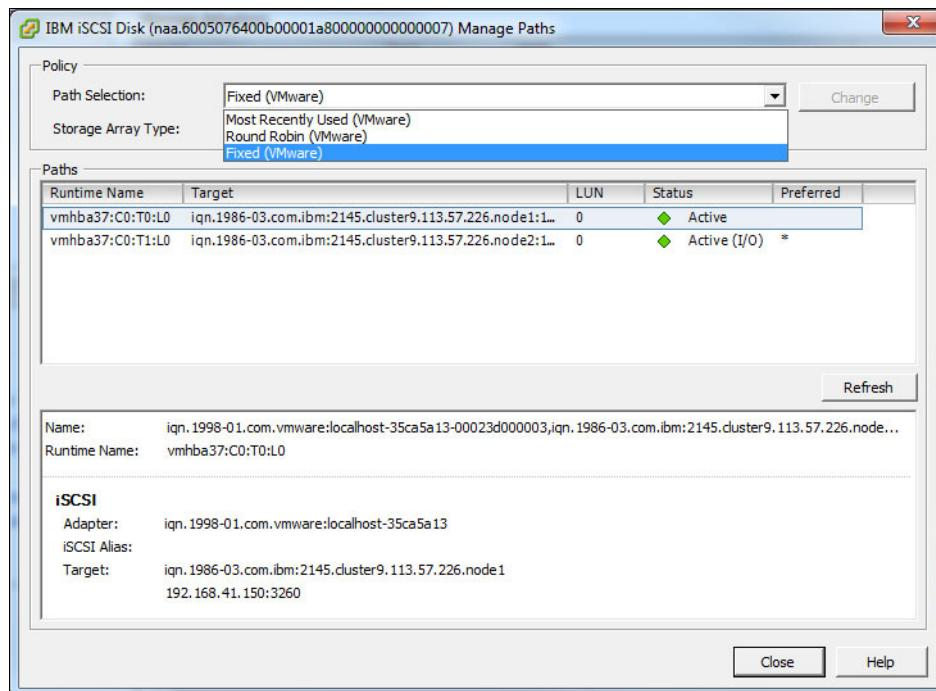

Figure 7-54 Path Selection
- Change the policy by using the drop-down menu for Path Selection under Policy, as shown in Figure 7-54.